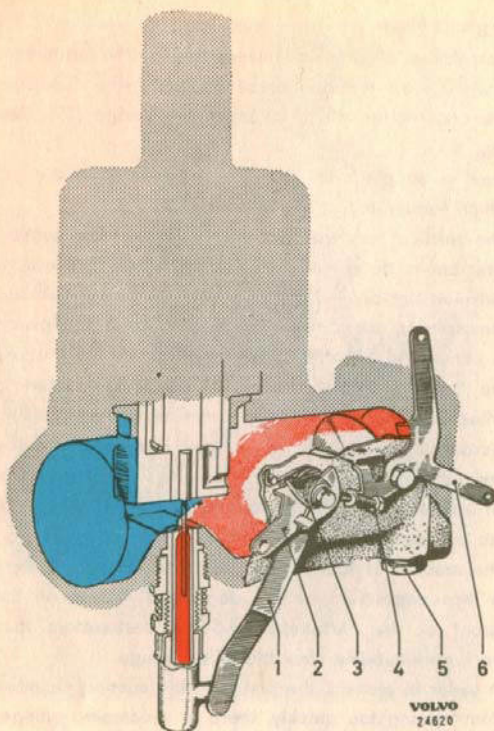

Fig. 1-15. Carburetor, rapid idling
When the choke control is pulled out, the outer end of the lever (3) is pressed downwards and this influences the jet so that it is pushed down. The rapid idling screw is also influenced by the cam on the lever (2, Fig. 1-15) and the throttle opening is somewhat increased.
When the choke knob is pulled out, the throttles are also influenced. The lever (2, Fig. 1-15) is formed as a cam at one end and this cam presses against the